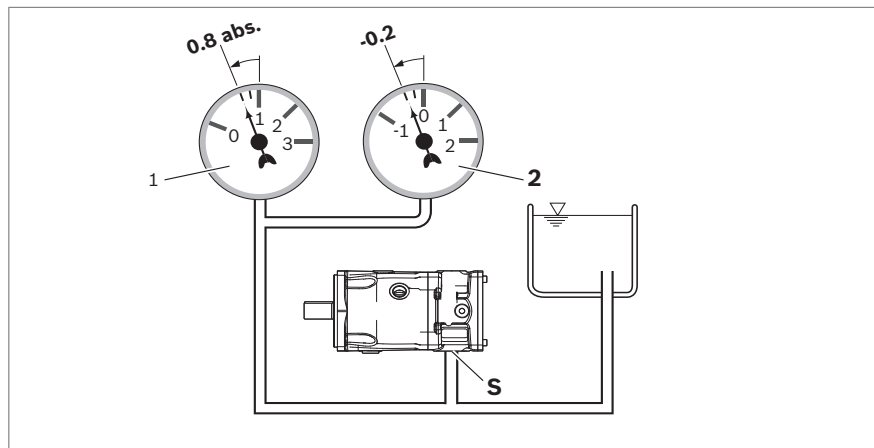

Abb. 12: Suction pressure example A10VZO
- ▶ Make sure that a minimum suction pressure of 0.8 bar absolute is present at port **S** (**A** or **B**) during operation for all installation positions and installation locations of the axial piston unit; see Abb. 12. See data sheet for other pressure values.